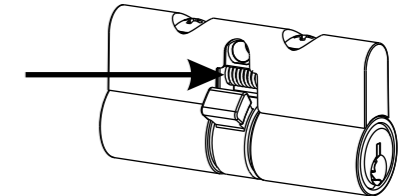

Figure 2
## Installing the BOTTOM Lock (Figures 2 & 3)
- 1 Attach the bottom lock assembly **drive box** to the Ultimate **centre lock**, ensure the **coupler** fits over the **location pins** (Figure 2).